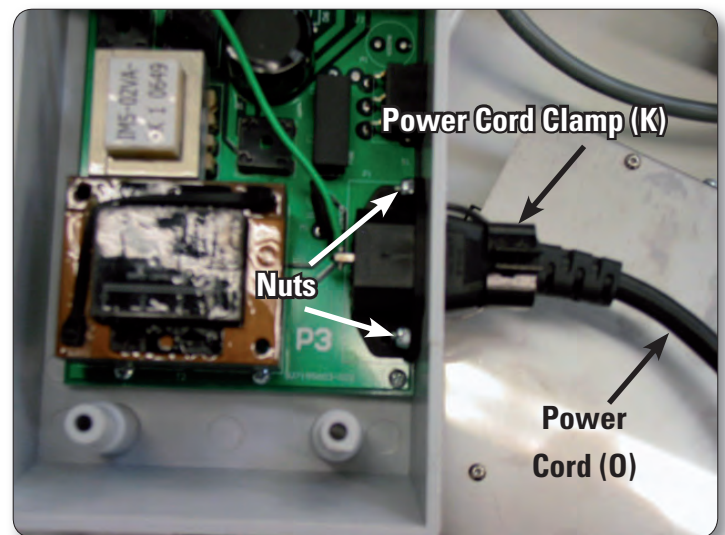

Figure 10
6. Slide the retaining clamp (Page 16, P) over one end of the new Y-split power cord (I).
8. Make sure the power cord is fully inserted, and then tighten the two P-Pod screws so they hold the clamp securely against the P-Pod. Insert the small screw included with the retaining clamp into the clamping portion of the retaining clamp and tighten so the clamp is now tight on the power cord as shown in Figure 10.